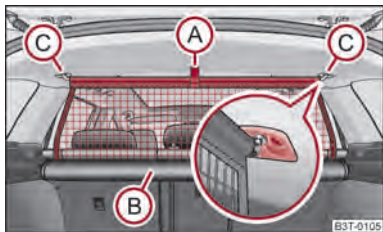

Fig. 82 Pull out the luggage net partition
- Pull the net partition at the bracket (A) ⇒ fig. 82 out of the housing (B) in direction of the holders (C).
- Insert the cross rod into one of the mounts (C) and push the cross rod forward.
- In the same way, fix the cross rod to the other side of the vehicle, mount (C).
- Pull the cross rod back slightly, first on the one side then on the other side and take the cross rod out of the mount (C) ⇒ fig. 82.
- Hold the cross rod in such a way that the net partition can roll up into the housing (B) slowly and without damage.